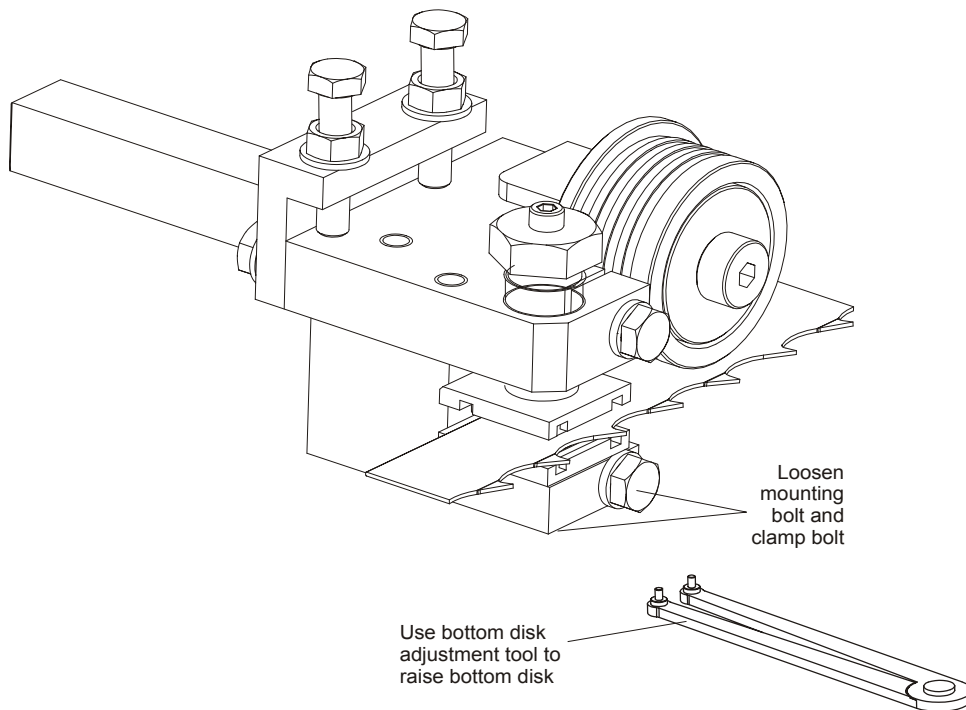

FIG. 3-1
**See Figure 3-1.** To adjust the disks up, loosen the bottom guide disk mounting bolt and clamp bolt. Use the provided adjustment tool. to raise bottom disk Retighten the bottom disk mounting bolt and clamp bolt. See Section: "See Section"